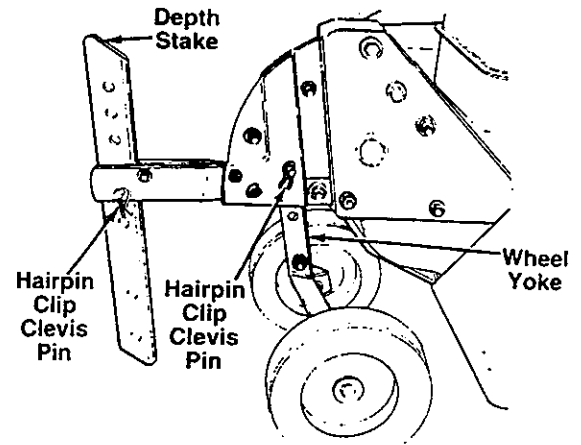

FIGURE 6
The tiller is shipped with the wheels adjusted such that the unit sits level. During tilling as the tines enter the ground and the front of the tiller lowers, the wheels must be raised to level the unit, which is essential for proper engine operation. This adjustment is made by removing the clevis pin and hairpin clip from wheel yoke, raising the wheels to the desired height, and replacing the clevis pin and hairpin clip. See figure 6.
2. **Depth Stake Adjustment:** The depth stake acts as a brake for the tiller and controls the depth and speed at which the machine will operate. Remove the clevis pin and hairpin clip to raise or lower depth stake. See figure 6. By increasing the depth of the depth stake, the forward speed of the machine is reduced, and the working depth is increased. When the depth stake is raised, the working depth of the machine is reduced and the forward speed is increased.